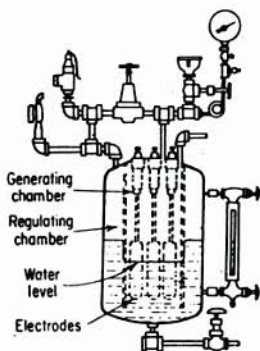

Fig. 6-9. Electrode-type electric steam generator.
2. Units with electrical electrodes located in a central generating chamber (Fig. 6-9). The water level recedes as the demand for steam decreases. Thus at no load, the electrodes are entirely out of water, and there is no electrical consumption.
A Figure 6-9 shows a cylinder, open at the bottom, welded to the inside of the upper head of a pressure tank. This cylinder divides the tank into two concentric chambers. The outer is the regulating, the inner the generating chamber. Suspended within the generating chamber are the three electrodes with electric power connected to them.